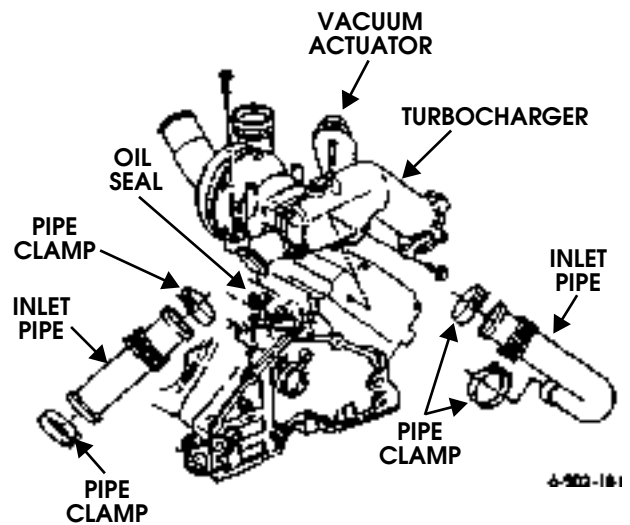

Figure 2-10: Turbocharger Mounting
8. Lift, turn and tilt turbocharger to remove it (Figure 2-10). Do not pry or force it off the engine.